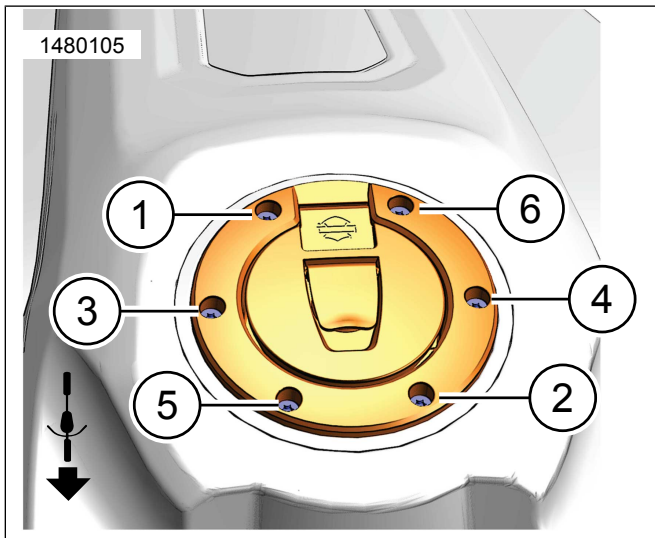

Figure 10. Round Locking Fuel Cap Installed / Torque Sequence
7. See Figure 10. Install round locking fuel cap assembly (2) with OE screws (1).
8. See Figure 10. Torque screw in sequence. Tighten.